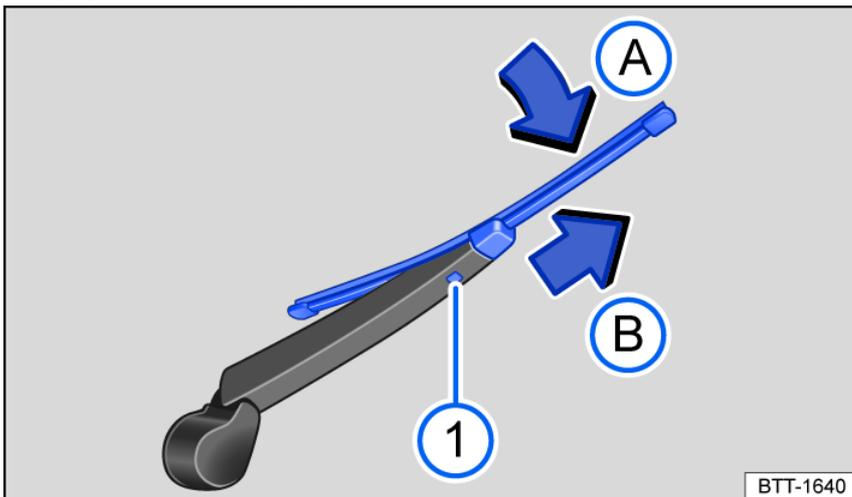

Fig. 177 Changing the rear window wiper blade.
① Unlock button of the wiper blade.
3. Press and hold the release button *fig. 177* ①.
4. Tilt the wiper blade toward the wiper arm *fig. 177* A while removing it in the direction of the arrow B. You may need to use more force to do this.
5. Slide a new wiper blade with the same length and design onto the wiper arm in the opposite direction to the arrow until it engages *fig. 177* B. For this to work the wiper blade has to be folded out *fig. 177* A.